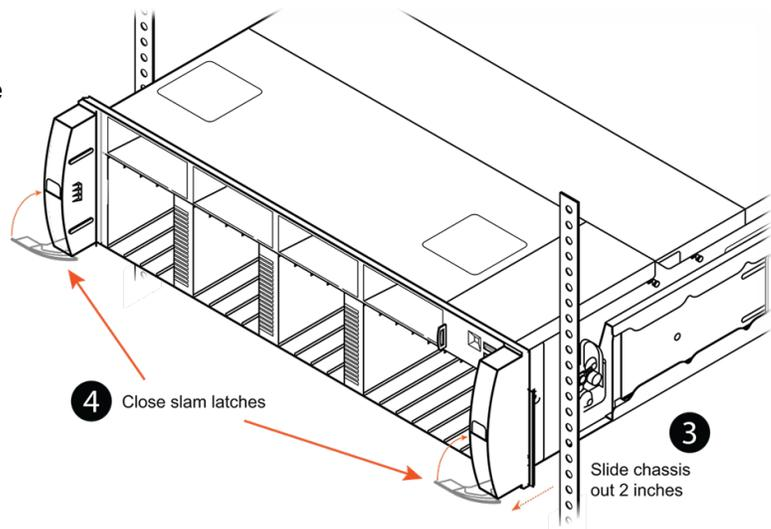

Figure 11-10. Close Slam Latches
3. After removing the screws, pull the chassis forward about two inches, and then close the slam latches. See Figure 11-10.